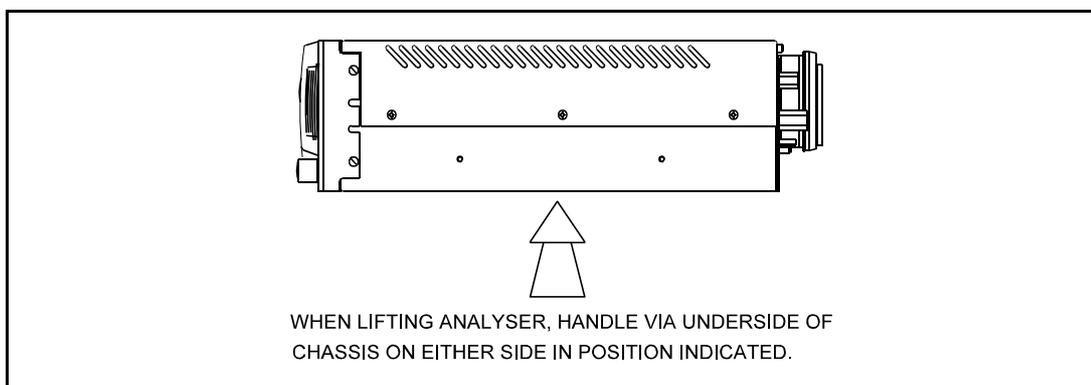
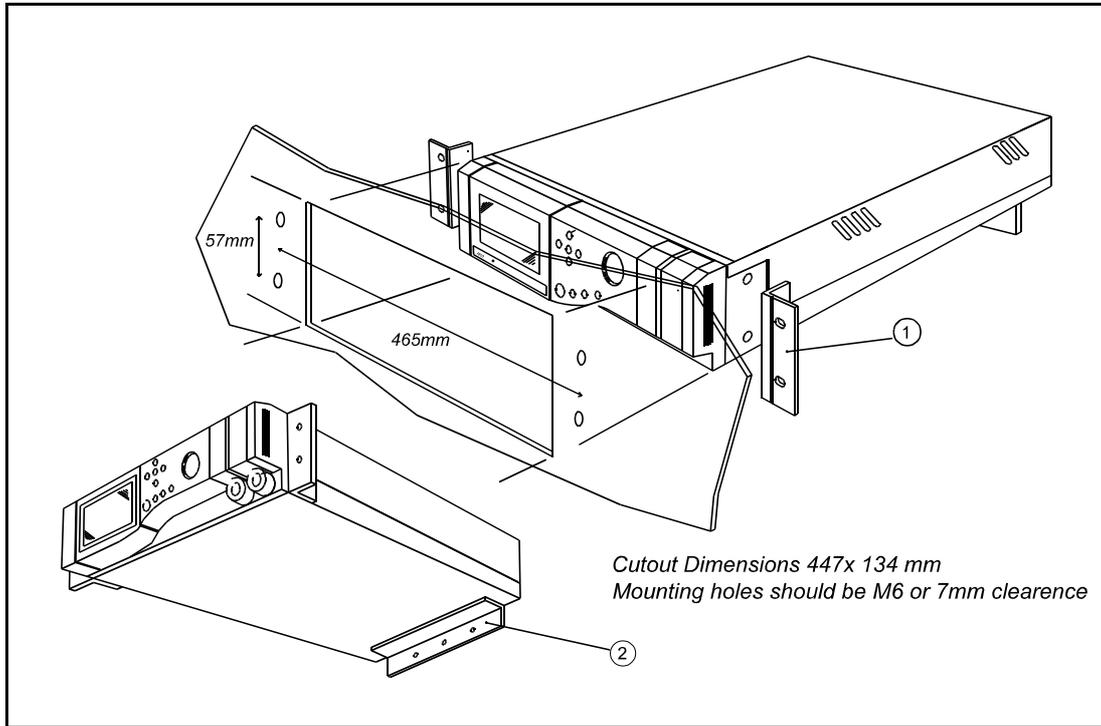

Figure 2.1 Recommended handling
Figure 2.2 Panel mounting detail.
The weight of the **xentra** (nominally 20 Kg) will vary according to configuration. The rack mounting brackets (See Figure 2.2 item 1) are not designed to be used as handles or grips. When removing the instrument from its packing, and for subsequent handling, ensure that the analyser is gripped securely underneath in the positions indicated in Figure 2.1). Lift and remove the **xentra** from its packing and inspect for any damage incurred during transit. If damage has occurred, inform Servomex or its agent immediately. Retain all packing and shipping information. The shipping carton may be used for future transportation.
See Figure 2.2 for panel mounting detail. In panel mounting format the *xentra* 4900 is supplied with a pair of mounting brackets (item 1 on figure 2.2) suitable for mounting the front of the instrument against a panel. These brackets are not intended to provide the sole means of support for the analyser. The user must provide additional means of support at the rear of the instrument (item 2 on figure 2.2).